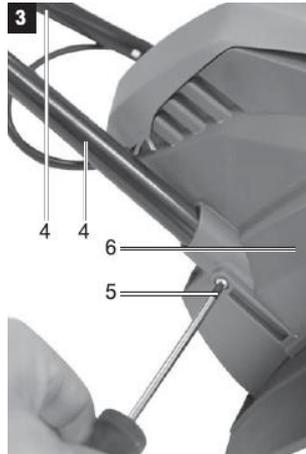

Fig. 3
1. Install the lower parts of the handle (4) in the holes of the cultivator body as shown in Fig.3. Fasten them with self-tapping screws (5).
To start the cultivator press the button (a, Fig. 3) and then press the trigger (b, Fig. 3).
The cultivator will continue to run as long as you press the switch lever (b, Fig. 3). To stop the cultivator, release the switch lever (b, Fig. 3).